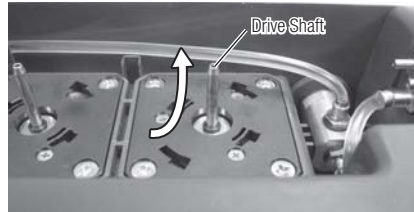

Fig.38
- Wipe dirt and water off the Drive Shaft from bottom up. (Fig.38)